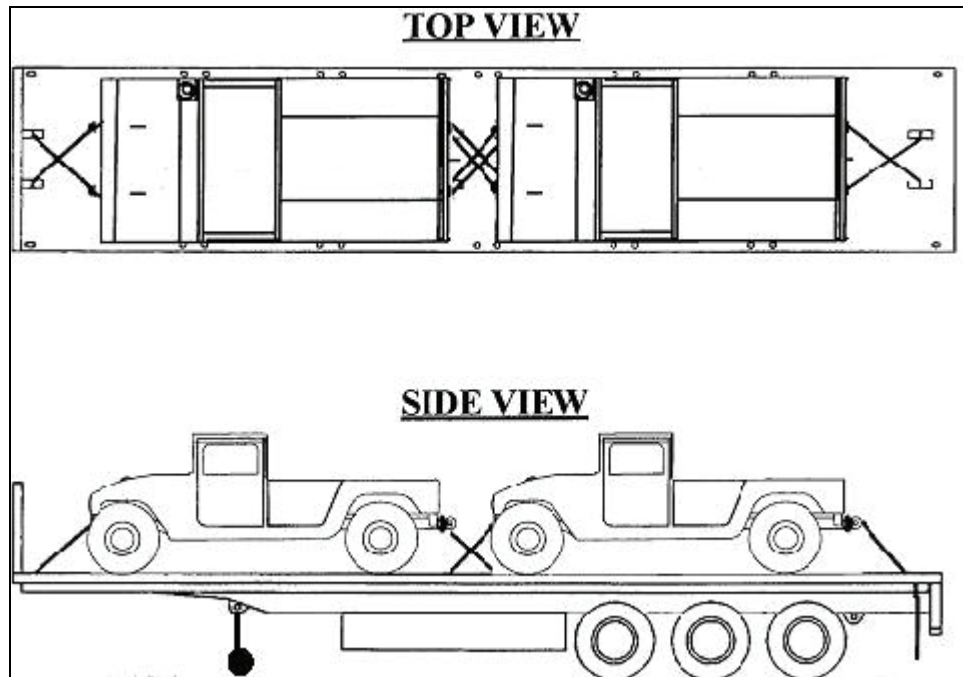

Figure 3-31. Vehicle Payload on M872 Semitrailer
6. Secure payload vehicle to semitrailer using load binders and chains (general procedures applicable to M872 semitrailers) (see Figure 3-31).